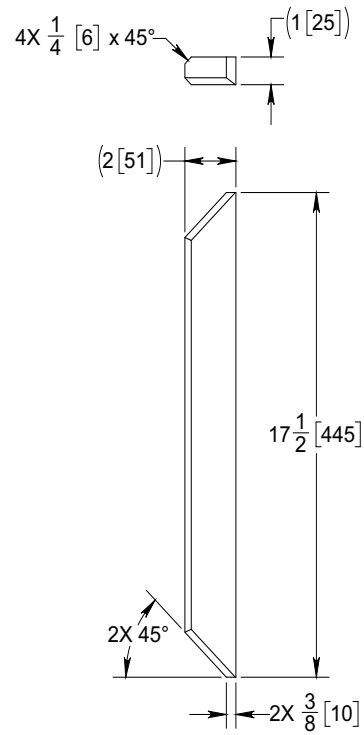

Figure 4: Plate P/N: DT27200-3
- Using ASTM A36 material, fabricate one (1) plate (item 2 on Table 1 on page 3) as indicated in Figure 4 on page 5.